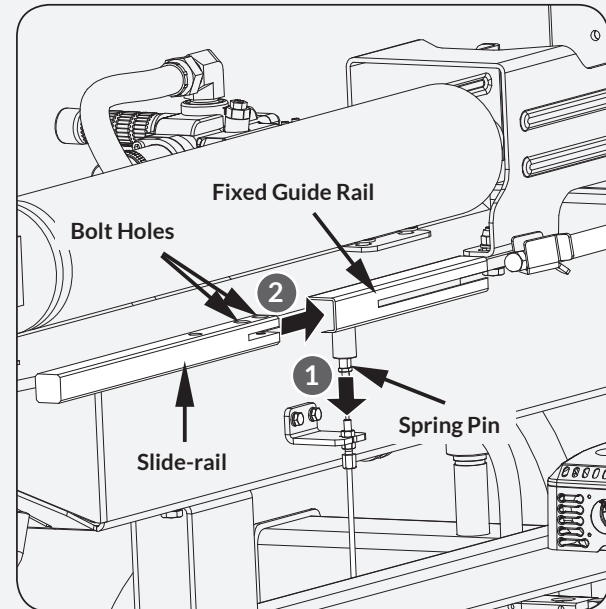

Figure 16a
1. Use a plier to pull down the spring pin and insert the slide-rail through the fixed guide rail until the two bolt holes on the slide-rail are fully exposed. (See **Figure 16a**)